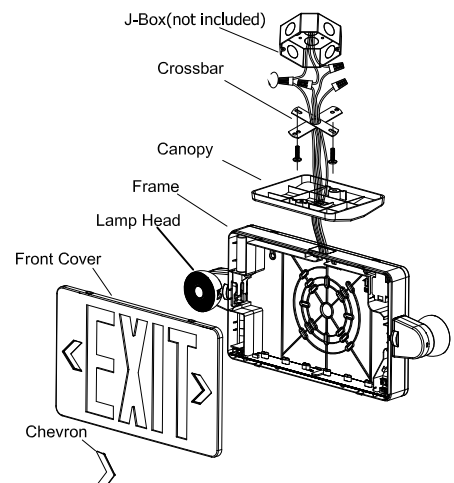

Fig 3
## Ceiling Mounting (see Fig 3)
4. Remove out the mounting hole cover on the top and side of the unit, assemble the canopy the unit (see Fig 3).